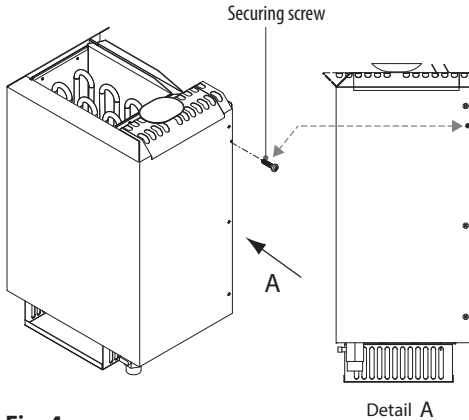

Fig. 4
4. Secure the sauna heater by tightening the screws (fig. 4).